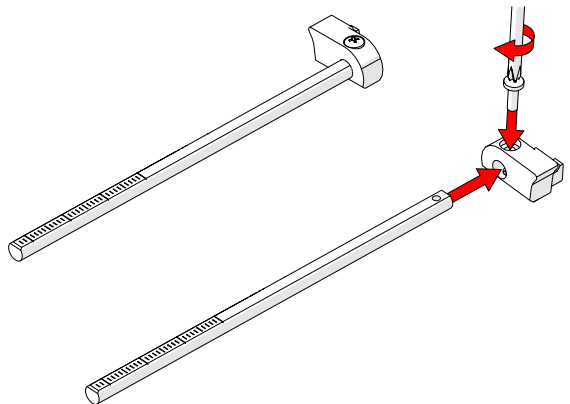

Fig. 87 - Reverse steps using required crossbars
9. Select the length of crossbar required for appropriate probe spacing and reverse the preceding steps (Fig. 87).